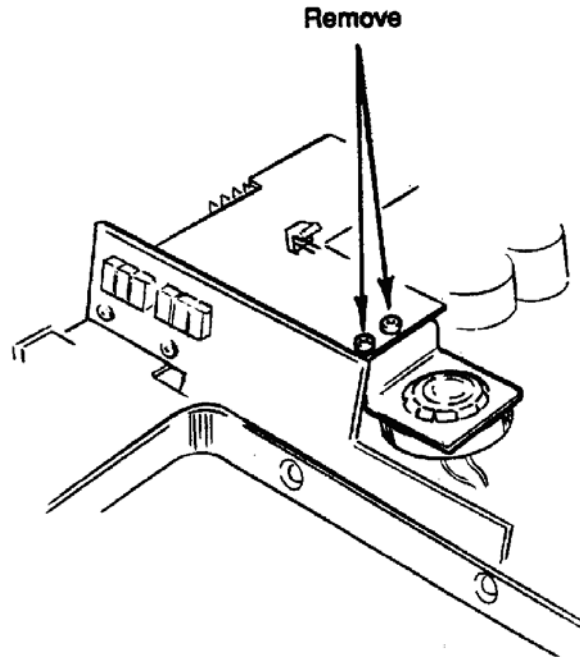

Figure 2-11. Defibrillator beeper removal.
- (1) Disconnect the 2-pin connector located under the paddle tray (figure 2-11).
- (2) Remove the two screws which hold the beeper mounting bracket in place.
- (3) Place your first and second fingertips under the beeper mounting plate. Use thumb pressure to press down on the beeper spring tabs encircling the edge of the seating hole. The beeper should release easily.